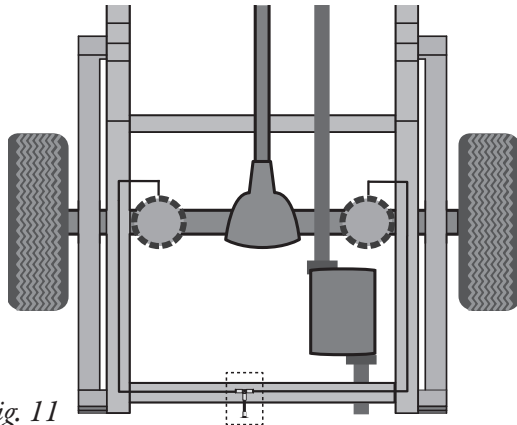
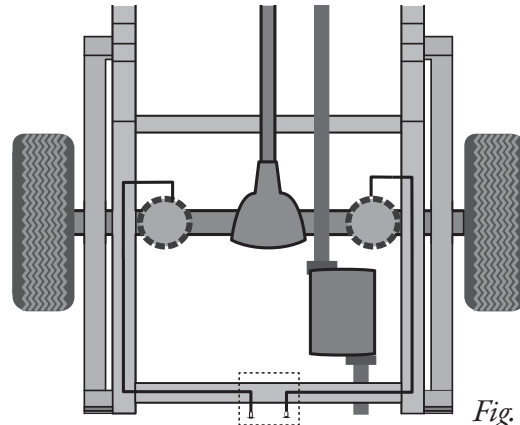

Fig. 11
Fig. 12
1. A single-path air line installation is recommended for vehicles that typically have even weight distribution (Fig. 11). If weight in the vehicle varies from side to side and unequal pressures are needed to level the load, use a dual-path installation. For dual-path air line installations, eliminate the tee fitting (J) and route separate air lines for both air springs (Fig. 12).